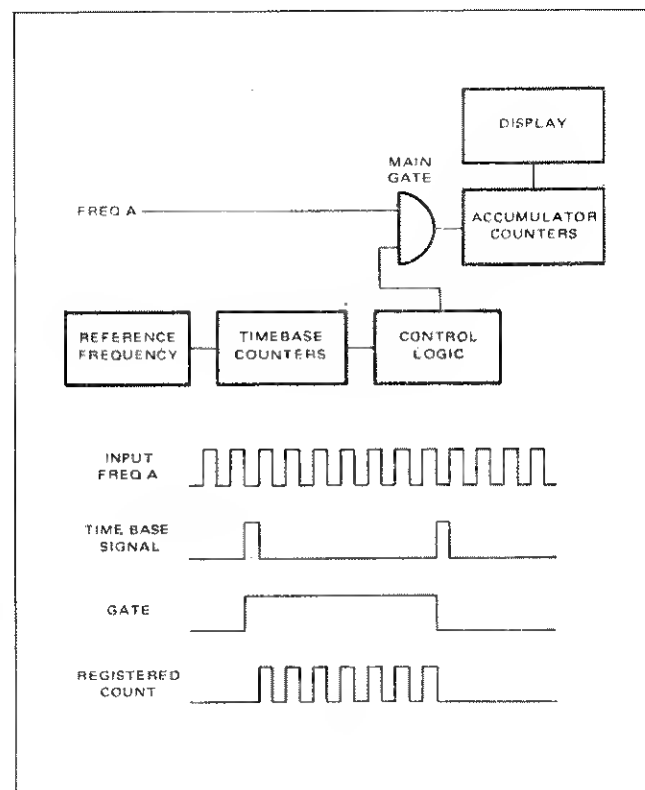

Figure 4.5 - Frequency A
4.3.5.1 During direct frequency measurements, the counter compares the unknown frequency against the known reference frequency (figure 4.5).